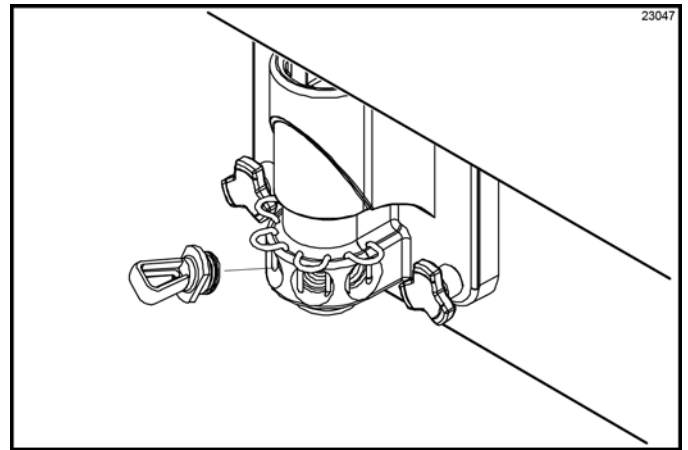

Figure 6-67
- Raise each retainer pin. Install the syrup hole plugs in the syrup ports in the freezer door. Lower the retainer pins to secure the hole plugs in the door. (See Figure 6-67.)